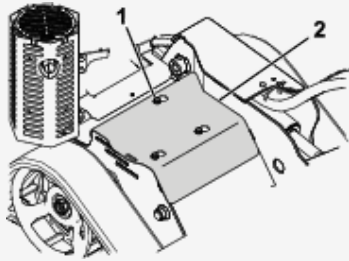

Figure 19
4. Loosen the 3 bolts securing the cover plate to the frame sequentially until the cover is loose (Figure 19).
1. Bolt (3)
6. To install the cover plate before operating the machine, slide the plate into place and tighten the 3 bolts you loosened previously (Figure 19).